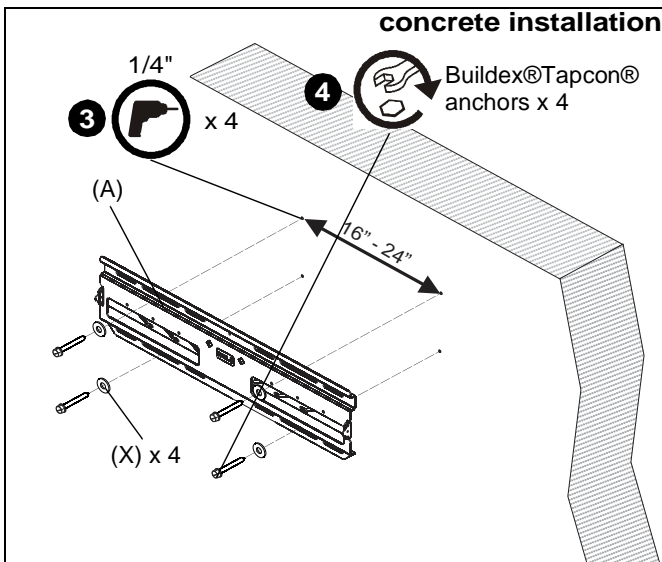

Figure 4
1. Determine a suitable mounting location and lift the wall plate (A) into mounting position on wall.
2. Using a small nail or screw (not provided) in the center hole, lightly support the wall plate at the mounting location. (See Figure 4)
3. Level the wall plate (A) and drill 1/4" pilot holes for anchoring the wall plate. Holes must be drilled between 16" and 24" apart. (See Figure 4)
4. Using four Buildex® Tapcon® anchors and four 5/16" washers (X), install the wall plate (A) on the wall. (See Figure 4)